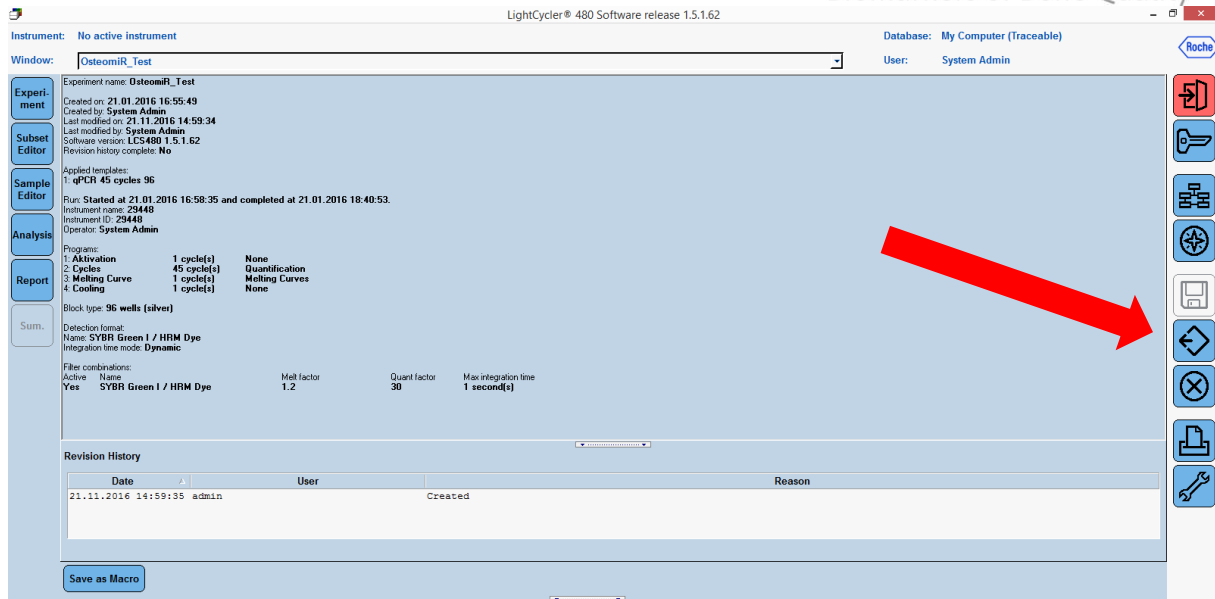

Figure 8: Window indicating finish of the qPCR run- data ready for export as .txt file. Red arrow indicates the necessary button for proceeding with data export
7. After the run is finished, the window shown in Figure 8 opens up. You can now save the generated data as .txt file by clicking on . **The window shown in Figure 9 will appear for choosing a directory for saving the qPCR data and importantly choosing the required data format as .txt.**